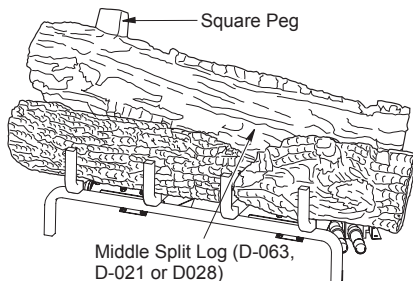

Figure 28 - Installing Middle Split Log (D-021)
- Find the middle split log (LMF36-SC and VFGT24 inch models: D-063 or LMF42-SC and VFGT30 inch models: D-021 or LMF48-SC and VTGF36 inch models: D-028). See Figures 28 and 28A. The split side of the log faces forward. The log has a notch that fits around the burner tube on the right side. The left side of the burner tube fits into the notch on the back side of this log. The log is placed properly when it sits parallel to the tube burner and the square peg is pointing up. See figures for reference.